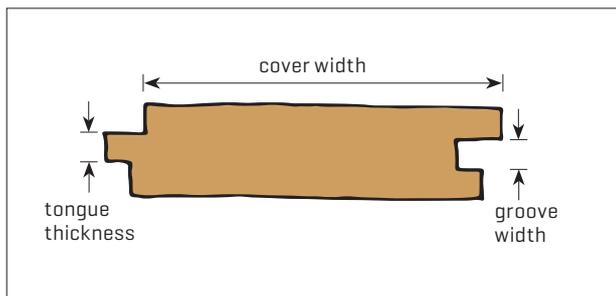

Figure 4. Board terminology.
**3.3.2** With flooring, we refer to the exposed width as the cover width and also to the tongue thickness and groove width [Figure 4].